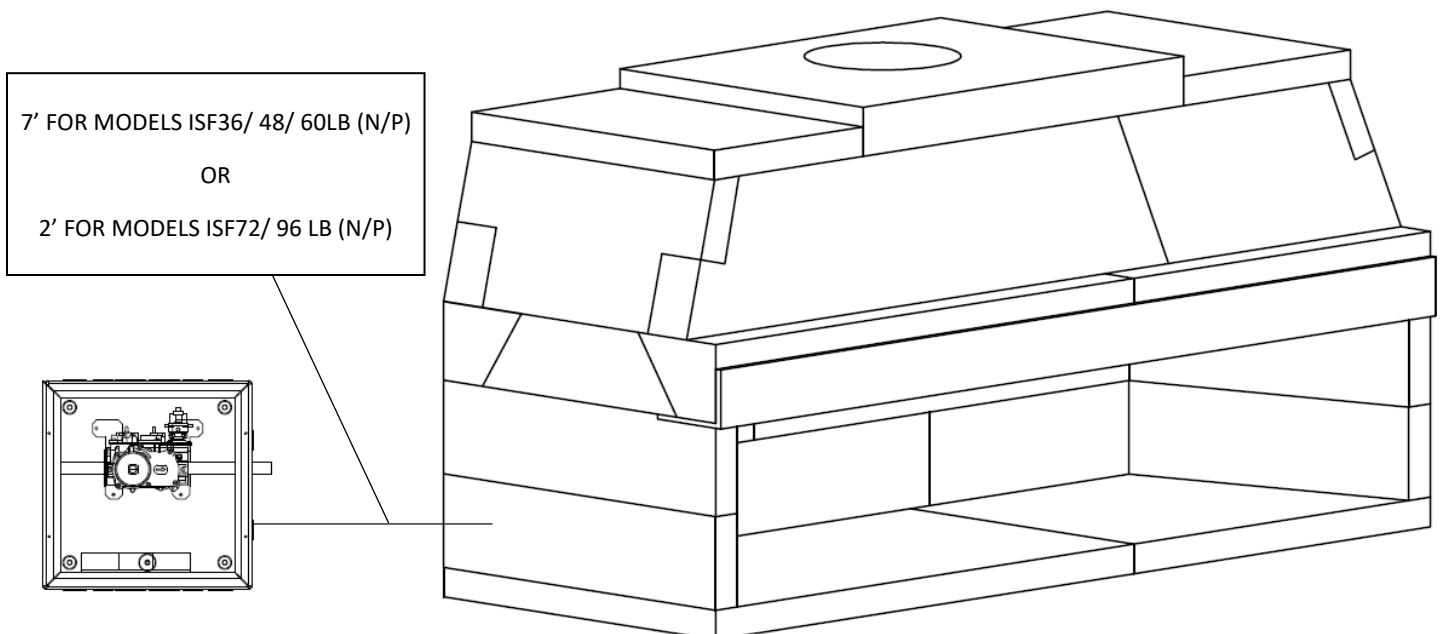

FIGURE 36
- 1) The valve control box comes with an 110" pilot assembly lead; therefore, the box must be mounted within 7' of the fireplace for models ISF36/48/60LB and within 2' for models ISF72/96LB. **(Figure 36)**